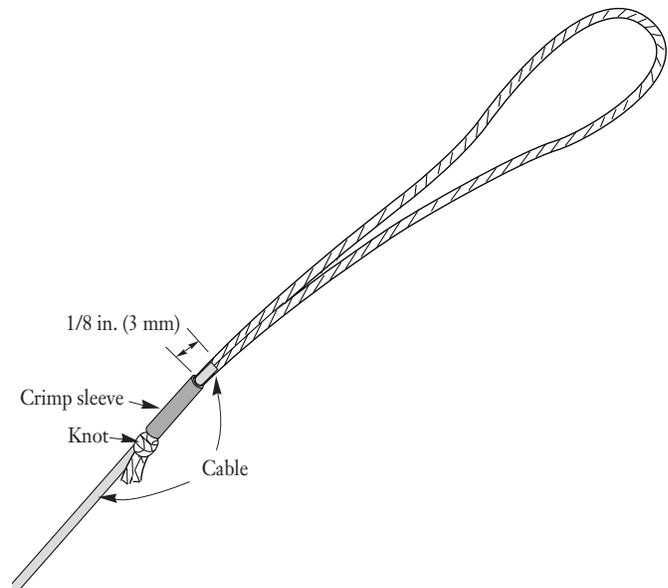

Figure 7
- 5.4 Feed the cable through the crimp sleeve so that at least 1/8 inch (3 mm) of cable is present beyond the crimp part. The loop of pull line should be beyond the crimp sleeve, while the knot rests on the cable sheath just behind the crimp sleeve (Figure 7).